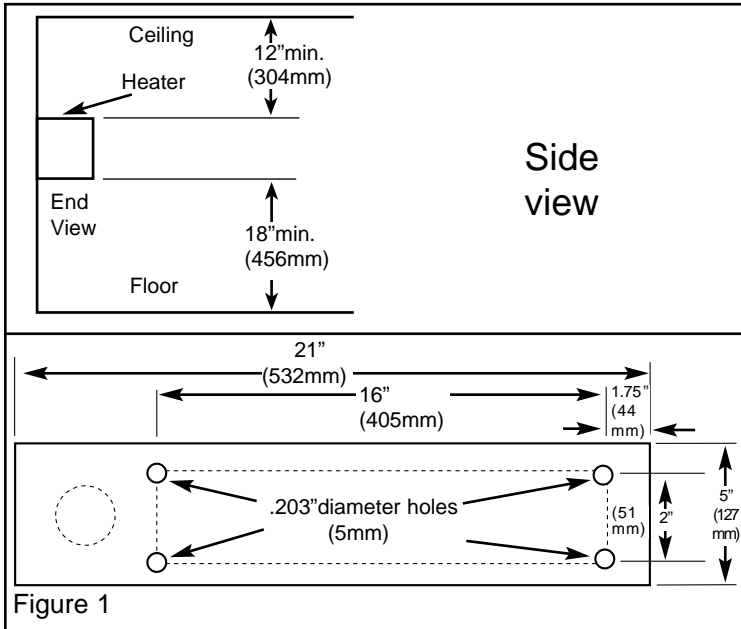

Figure 1
2. Position the heater on wall at desired mounting location maintaining the minimum clearances as noted in Warning 3 and as shown in Figure 1.